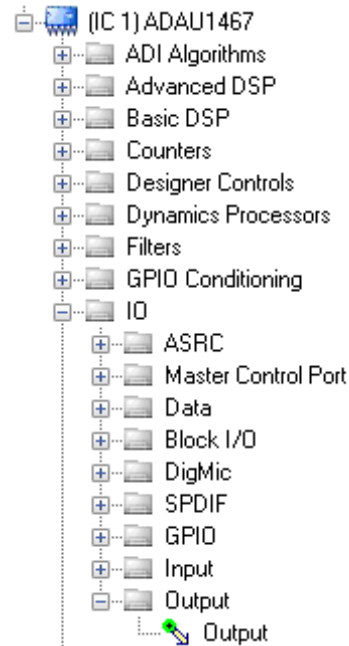

Figure 23. Output Block Selection
- i. From the (IC1) ADAU1467 > IO > Output folder, click **Output** (see Figure 23) and drag it into the project space to the right of the toolbox.